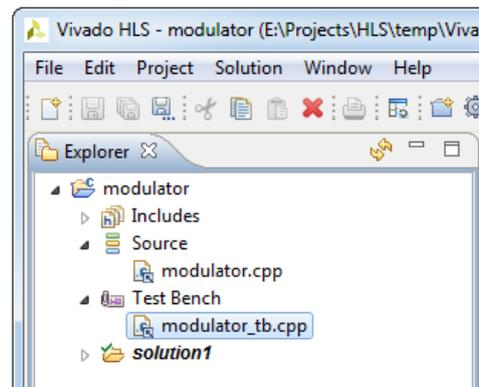

Figure 2.15: Test Bench folder with modulator_tb.cpp file
Step 3. Repeat the same procedure for the *modulator_tb.cpp* testbench file. Therefore, in the Vivado HLS **Explorer** pane expand **Test Bench** folder and double-click on the *modulator_tb.cpp* file to open it, see Figure 2.15.